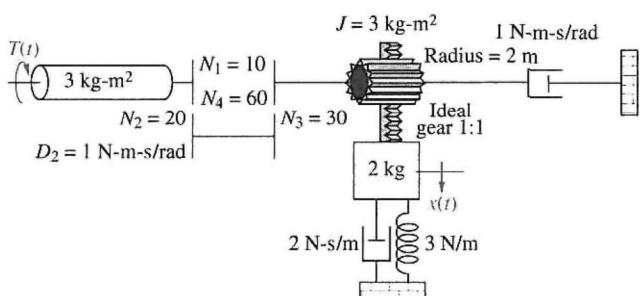

FIGURE P2.26
40. For the combined translational and rotational system shown in Figure P2.26, find the transfer function, $G(s) = X(s)/T(s)$. [Sections: 2.5; 2.6; 2.7]